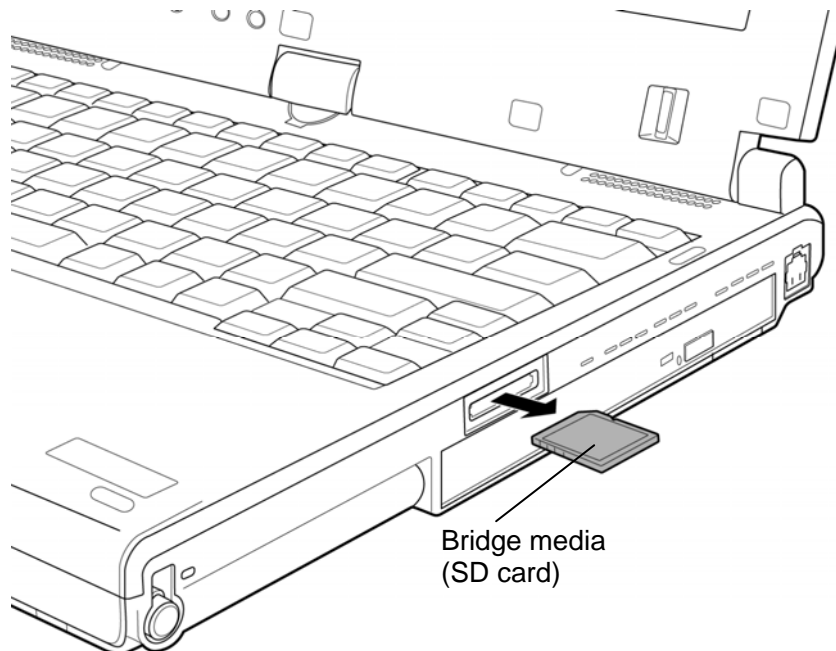

Figure 4-3 Removing the Bridge media
The following describes the procedure for removing the Bridge media. (See Figure 4-3.)
1. Push the **Bridge media**. It will pop out partly, so pull out the card. (For an instance, SD card is described in the figure 4-3.)
The following describes the procedure for installing the Bridge media. (See Figure 4-3.)